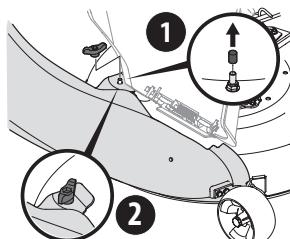

Figure 20
2. Secure the boot to the deck using a wing knob (720-04122) from hardware pack 689-01419. See Figure 20.
NOTE: If present, remove the protective cap off of the mounting stud on the mowing deck as shown in the upper inset of Figure 20.